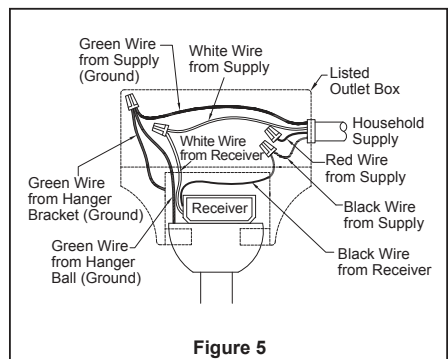

Figure 5
5. Route wires through motor coupling cover and slide motor coupling cover onto the downrod. Seat the motor coupling cover on the motor assembly. (Figure 5)
4. After connections have been made, the wires should be spread apart with the grounded conductor and the equipment-grounding conductor on one side of the outlet box and the ungrounded conductor on the other side of outlet box, then turn leads upward and carefully push leads into the outlet box, with the white and green leads to one side of the box and the black leads to the other side. (Figure 5)
5. Remote functions: (Figure 5)